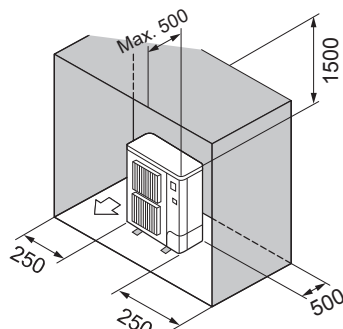

Fig. 2-12
- ⑥ Obstacles at rear, sides, and above only (Fig. 2-12)